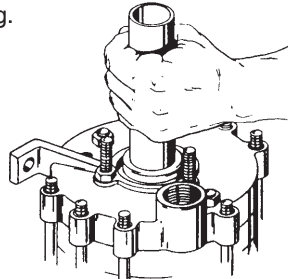

Figure 4-14
23. Install the seal cup with the face of the seal towards the rotating element. (refer to figure 4-14) A short length of pipe will help to tap the cup down until it contacts the ring.